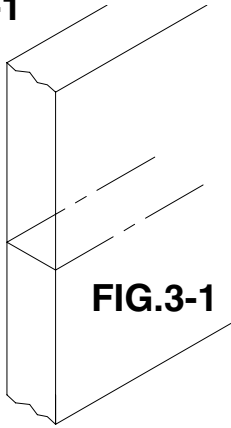
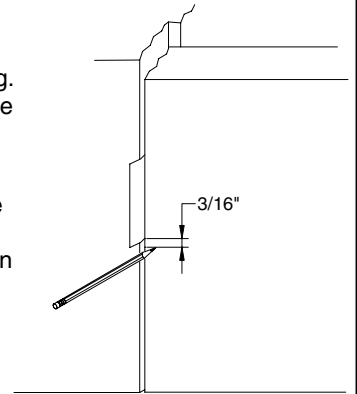

FIG.3-1
FIG.3-2
- a. Draw a horizontal centerline on both sides and edge of the Door at the desired Knob Center Height. Refer to Fig. 3-1.
NOTE: If the Frame has already been prepared for a Falcon Strike. Install the Strike and use the Strike Lip as a reference to locate the horizontal centerline position. Mark the Door $\frac{3}{16}$ " below the bottom of the Strike Lip as illustrated in Fig. 3-2 and draw horizontal centerlines on the Door at this position as illustrated in Fig. 3-1.